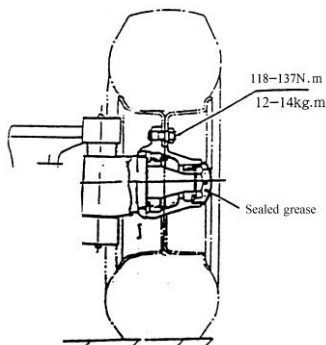

Fig. 3-6 Pre-load adjustment
(1) As shown in Fig.3-6, fill up the chamber formed by wheel hubs, wheel hub bearing and wheel hub covers with lubricating grease. Coat the lips of the oil seal with lubricating grease.
(2) Press the hub bearing into the hub and fit the hub on the knuckle shaft.
(3) Fit a flat washer and tighten a castle nut with torque of 206-235N.m (21-24kg.m) and loosen it, and then tighten it again with torque of 9.8N.m (1kg.m).
(4) To ensure firm installation of the hub, slightly knock at it with a wooden hammer and in the meantime, rotate the hub for 3-4 turns.
(5) Tighten the castle nut and align one of its notches with a cotter pin hole drilled in the steering knuckle.
(6) Again slightly knock at the hub with a wooden hammer and in this time, rotate manually the hub for 3-4 turns to ensure its smooth rotation with a specified torque of 2.94-7.8N.m (0.3-0.8kg.m).
(7) If the torque value necessary to rotate the hub is more than the specified above-mentioned, screw out the castle nut for 1/6 turn and then measure the torque value.
(8) When the torque value measured is up to the specified one, lock the castle nut with a cotter pin.